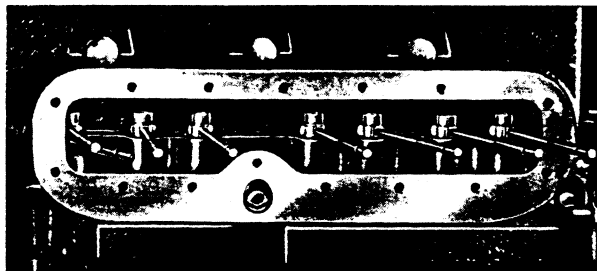

FIG. 128.
11. Remove oil filler and tappet cover assembly. To prevent the tappets dropping into the engine while the camshaft is taken out, fit clip FT.140 over each tappet as shown in Fig. 128. On the front tappet the shorter leading edge of the clip should be towards the cylinder block.